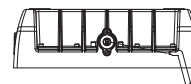

figure 7.1
1. Take the lamp out of the packing box, take out the handle configured in the packing box, and insert it into the slot of the knob. (figure 7.1)